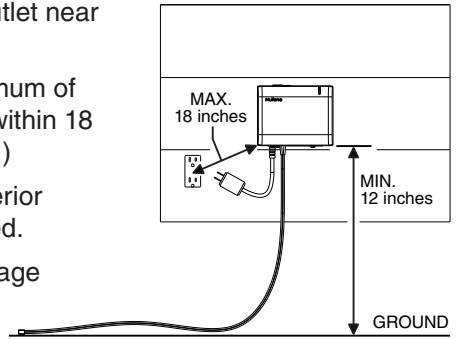

Fig. 1
1. Locate closest exterior electrical outlet near desired installation area. (Fig. 1)
2. Controller must be installed a minimum of 12 inches above ground level and within 18 inches of an electrical outlet. (Fig. 1)